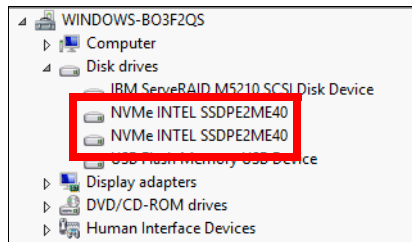

Figure 5-48 NVMe driver as shown in Device Manager
1. Open Device Manager and the expand **Disk drives** section. All installed NVMe drives should present, as shown in Figure 5-48.